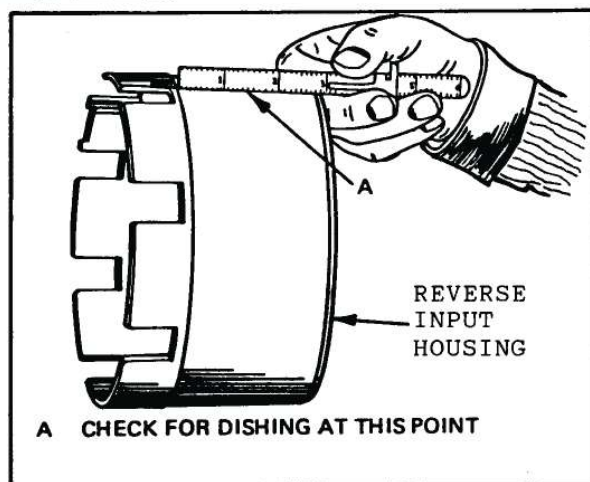

Figure 94
5. Housing assembly for damaged or worn bushings, surface finish where the band rides and for dishing (See Figure 94), check ball assembly for free movement (leak check with solvent), and for leak at the weld.